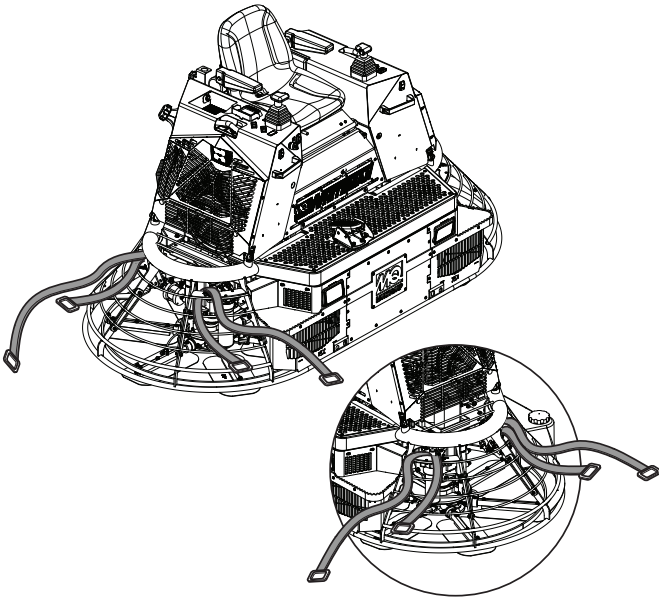

Figure 5. Routing Tie-down Straps
2. Attach suitable tie-down straps to the trowel. Route tie-down straps on both sides as shown in Figure 5.